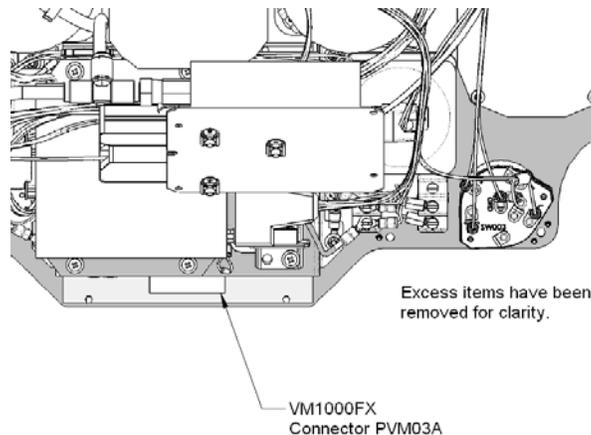

Figure 31-5 Location of the Connector on the VM1000FX
7. Disconnect the ribbon cable from the VM1000FX display. See Figure 31-5 for the location of the connector for the VM1000FX.